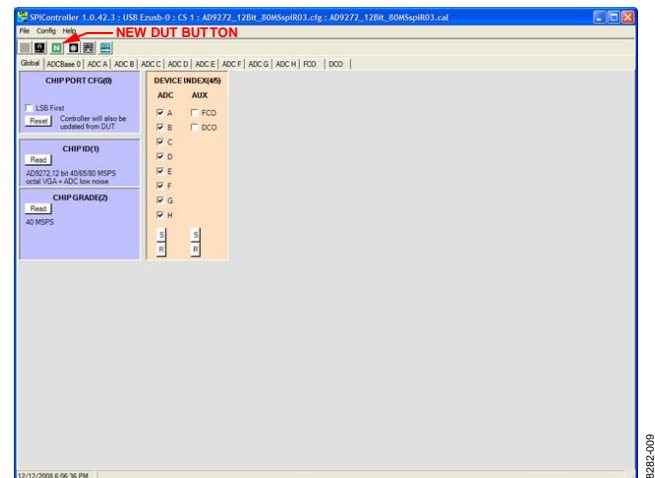

Figure 9. SPI Controller, New DUT Button
- Click the **New DUT** button in the SPI Controller (see Figure 9).